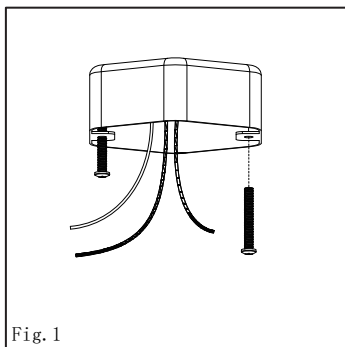

Fig. 1
1. Thread the mounting screws into the outlet box so that they extend approximately 1/2 in. below the ceiling. (Fig.1)